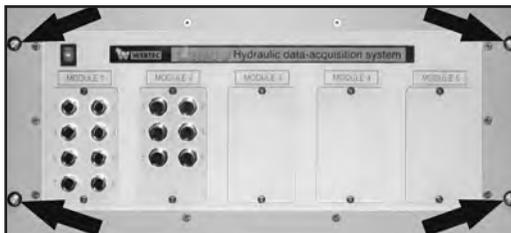

Figure 5. Midbox retaining screws.
5. Remove the four Midbox retaining screws (figure 5) and withdraw the Midbox unit from the rack.
9. Identify the six channel frequency input plate (Module 2 in figure 5) and remove the two retaining screws. Remove the Perspex cover plate (figure 8).
11. At the next available blank module on the front of the Midbox (Module 3 in figure 5) remove the two screws retaining the plastic and aluminium plates and remove the parts; retain the screws.
12. Inside the Midbox move the six channel frequency input plate in to the adjacent vacant module position (Module 3 in figure 5). Re-fit the aluminium plate from outside the box and secure with the three screws. Fit the Perspex cover plate and secure the module with the two screws (figure 8).
21. Fit the Midbox back in to the C2000 rack and secure with the four screws (figure 5).